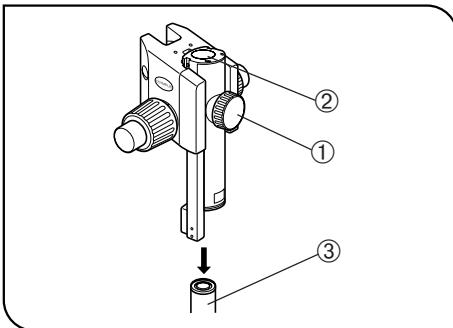

Fig. 17
(Figs. 17 & 18)
1. First loosen the focusing assembly clamping knob ① completely and, while holding the focusing assembly with both hands, insert the pillar ③ into the mounting hole ② from below. (Fig. 17)
2. Lower the focusing assembly until it stops, then tighten the focusing assembly clamping knob ①. (Fig. 17)
★If the clamping knob ① is tightened while the pillar ③ is not completely inserted into the mounting hole ②, the plate spring supporting the pillar will deform and the pillar will not be able to penetrate into the hole. (Fig. 17)